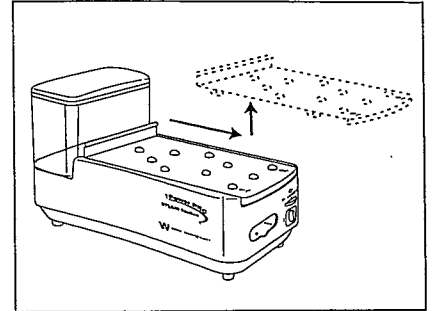

Figure 1
2. Firmly push Sliding Cover forward, away from Water Tank (in the direction of the "Open" arrows). Lift and remove Sliding Cover away from Control Center (Figure 1).